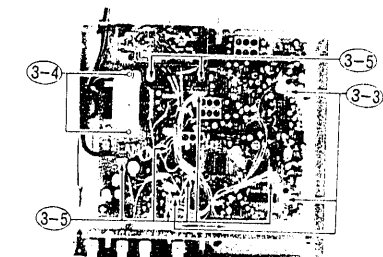

Fig. 3
3. Main Circuit Board Removal (Fig. 3)
- 5) Release Main Circuit Board. (Fig. 3)